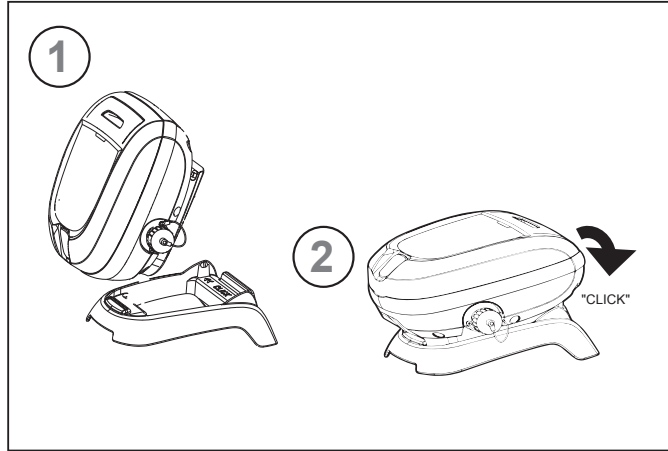

Figure 1. Connect Control Unit Base
- **U.S.:** Per NEC® requirements, keep the control unit at least five (5) ft. (1.5 m) from the edge of the pool. **CANADA:** Per CEC requirements, keep the control unit at least three (3) m (10 ft.) from the edge of the pool.
1. Seat the control unit firmly in the control unit base (Figure 1).